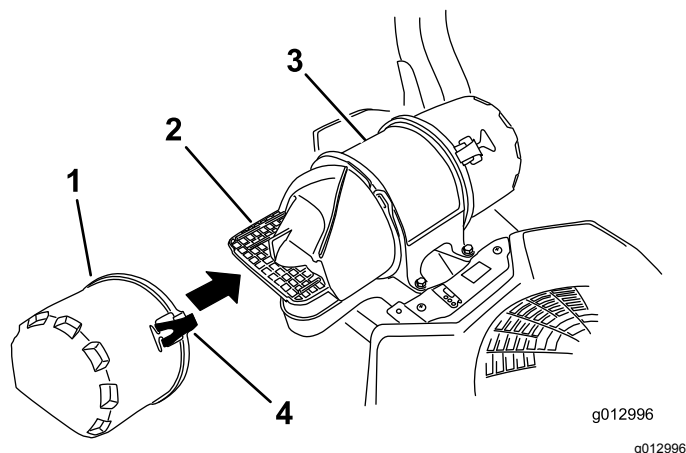

Figure 54
3. Release the latches on the air cleaner and pull the air-inlet cover off the air-cleaner body (Figure 54).
5. Install the air-inlet cover and secure it with the latches (Figure 54).